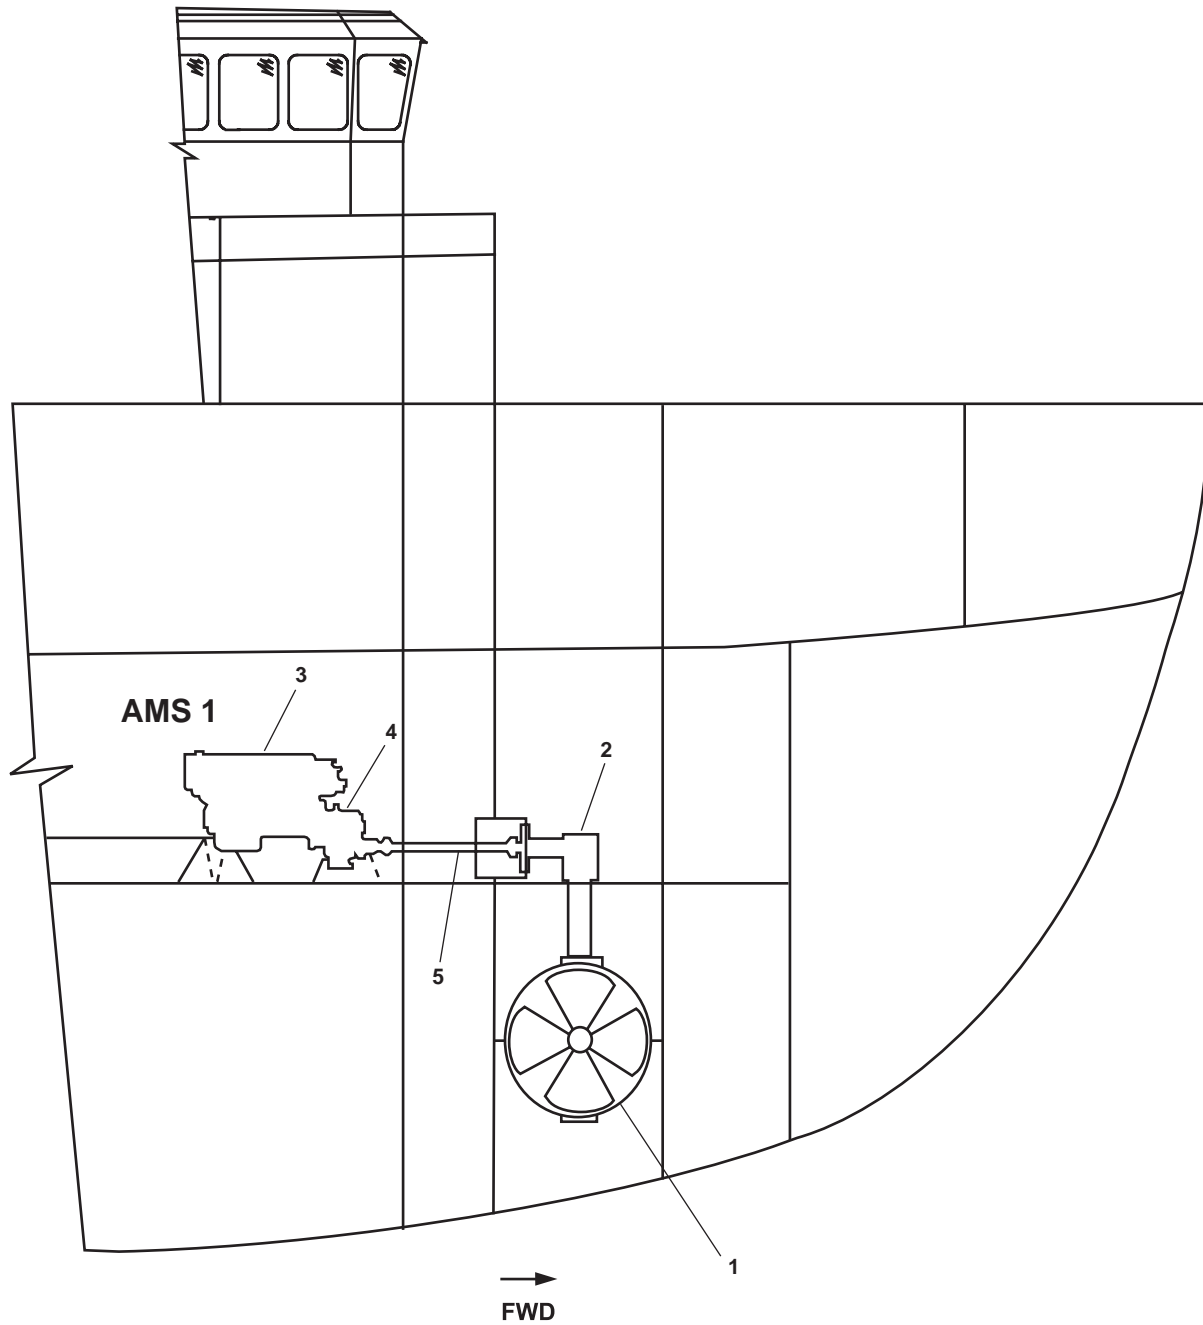

Figure 1. Bow Thruster Components
The bow thruster engine (figure 1, item 3) is a turbocharged, 4-cycle, inline 6-cylinder marine diesel engine. The engine is air started. It has its own lubricating oil, cooling, and fuel oil systems. A jacket water heater is provided to ease cold weather starting.
A reverse reduction gear (figure 1, item 4) reduces the engine output revolutions per minute (r/min) and reverses rotational direction to the drive shaft (figure 1, item 5). Direction of rotation and hydraulic clutch operation is controlled by a throttle control on the pilothouse console or auxiliary control stations. The reduction gear is equipped with a shaft brake. The shaft brake is designed to lock the drive shaft when the reduction gear is in neutral.